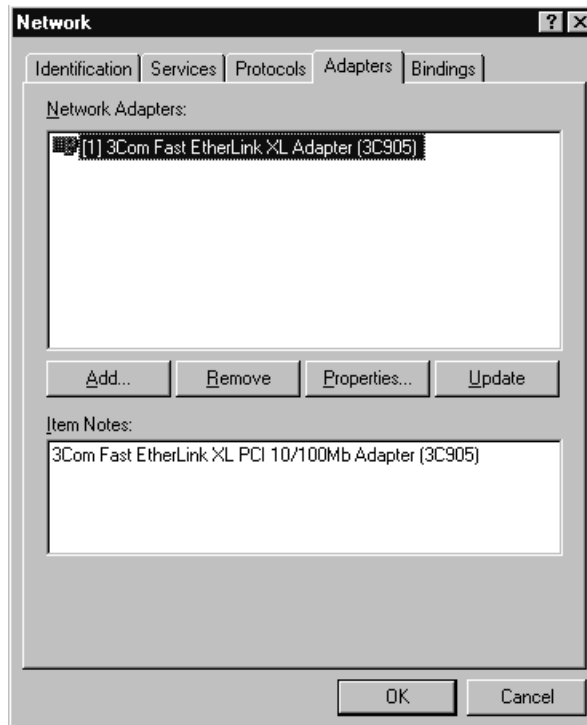

Figure 3-6. Network Screen
2. From the **Adapters** tab on the **Network** screen, click on the **Add** button (Figure 3-6).